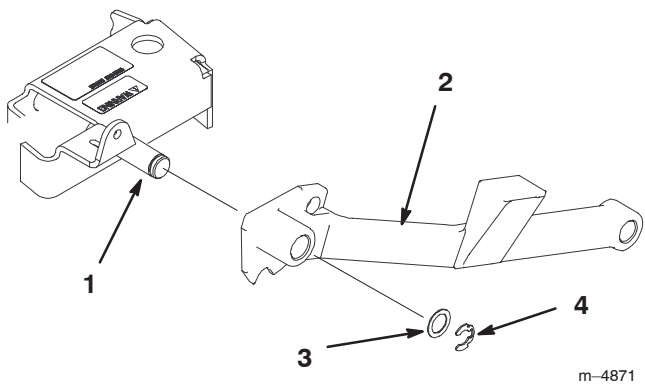

Figure 81
6. Place push arm onto carrier frame pin and secure with 1-1/2 inch flat washer and retaining ring (Fig 81).
3. Remove the retaining ring and flat washer securing the push arm to the mower (Fig. 81).